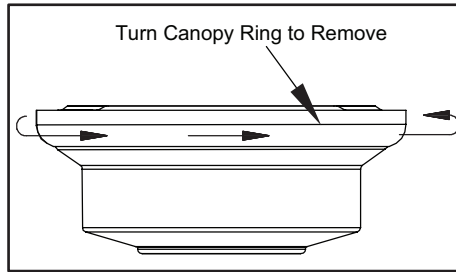

Figure 5
1. Remove the canopy from the canopy by turning the ring counter-clockwise until it unlocks. (Figure 5)